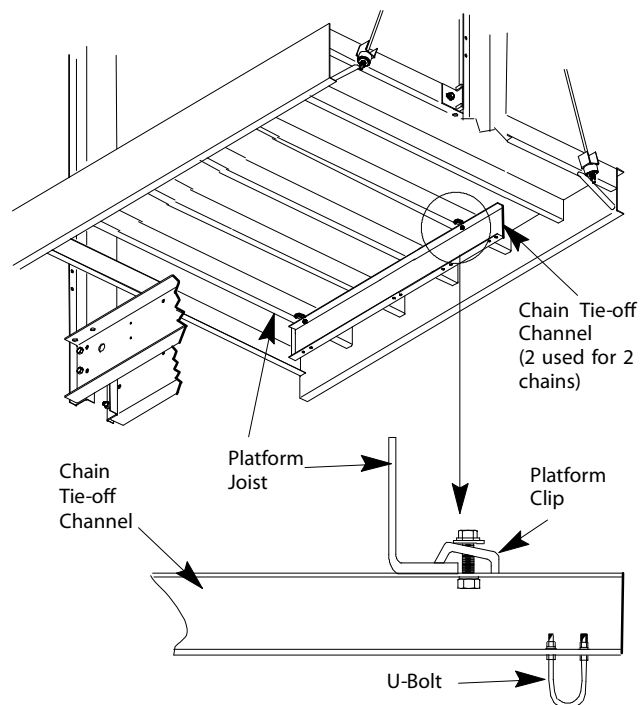
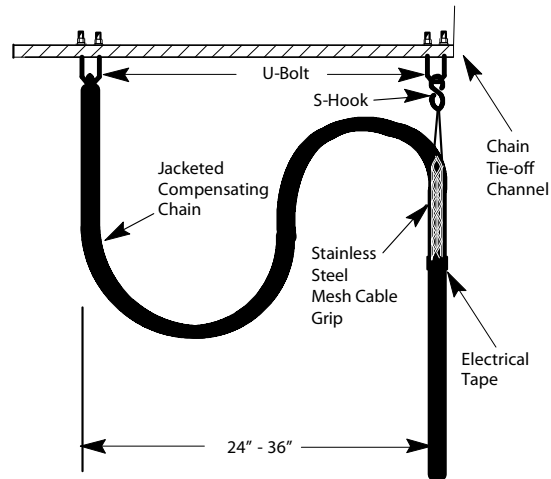

Figure 11 - Tie Off Channel Installation
Figure 12 - Typical Car Connection
2. Adjust the channel location to align the end set of U-bolt holes directly above where the chain will hang. See Figure 11 (below) and Figure 12 on page 18.
1. Install a mesh cable grip 48" - 60" from the end of the chain. See Figure 12 on page 18.
5. Insert a second U-bolt through the last loop at the end of the chain and install it in holes that are 24" to 36" from the first attachment. See Figure 12 on page 18.